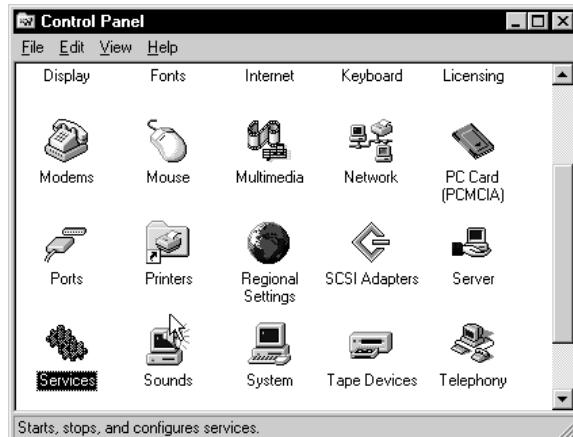

Figure 2-10. Control Panel
- 3** Double-click the **Services** icon as shown in Figure 2-10.